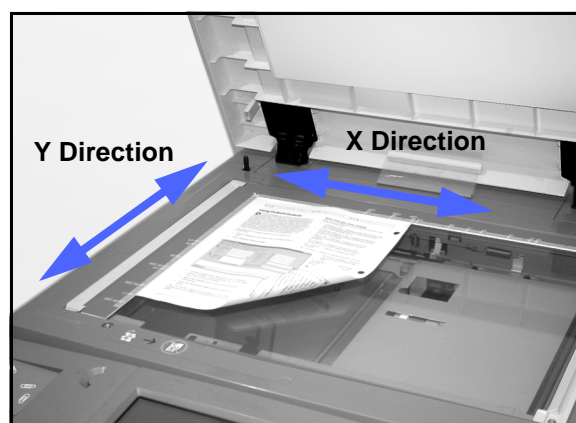

Figure 13: Document Glass directions
**KEY POINT:** The X and Y directions are always determined in reference to the registration arrow, located around the Document Glass, Figure 13. The X direction is always along the long edge of the Document Glass, and the Y direction is along the short edge of the Document Glass. The X and Y direction references on the Document Glass remain the same, regardless of the document orientation (long edge registration or short edge registration).